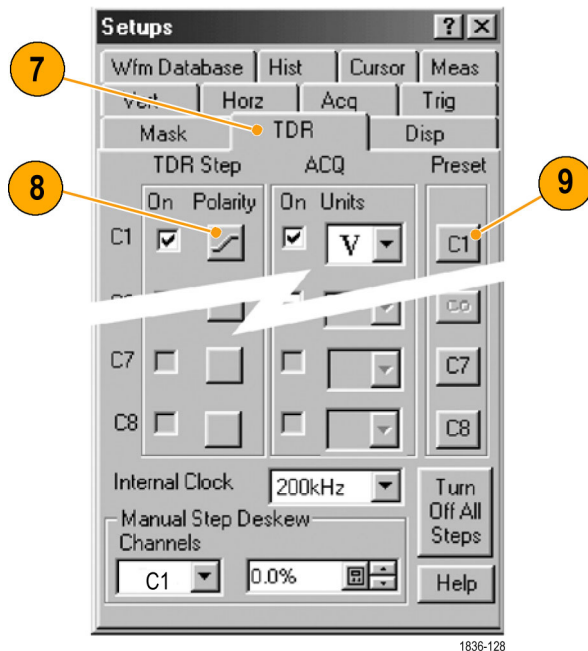

Figure 18: TDR parameter setup
7. Set the Channel 1 sampling head to TDR mode: press the **SETUP DIALOGS** button and select the TDR tab. (See Figure 18 on page 30.)